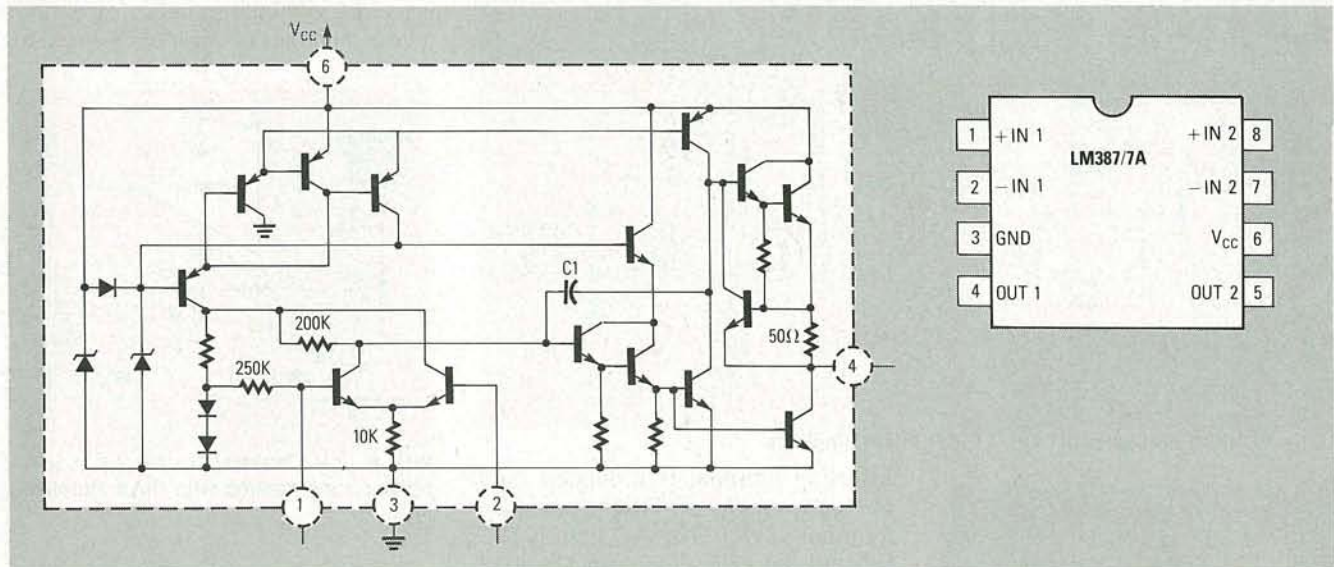

FIG. 4—THE LM387/7A DUAL LOW-NOISE PREAMP.
If the head-switching pulse is not present, or if it's distorted or inverted in phase, the symptoms will be similar to bad heads or a bad pre-amp. Some examples of bad waveforms are shown in Fig. 4. Waveforms *a* to *d* are caused by mechanical misalignment of the tape guides, and the waveforms in *e* and *f* indicate proper alignment, but show a problem with the video heads, pre-amps, or head switcher.
FIG. 4—IMPROPER WAVEFORMS. Waveforms *a-d* are caused by mechanical misalignment of the tape guides. The waveforms in *e* and *f* indicate proper alignment, but show that there's a problem with either the video heads, pre-amps, or head switcher.
- The LM387 and LM387A, shown in Fig. 4, are utility versions of the LM381/1A, with only the input and output terminals accessible, and no provision for external compensation or single-ended operation.